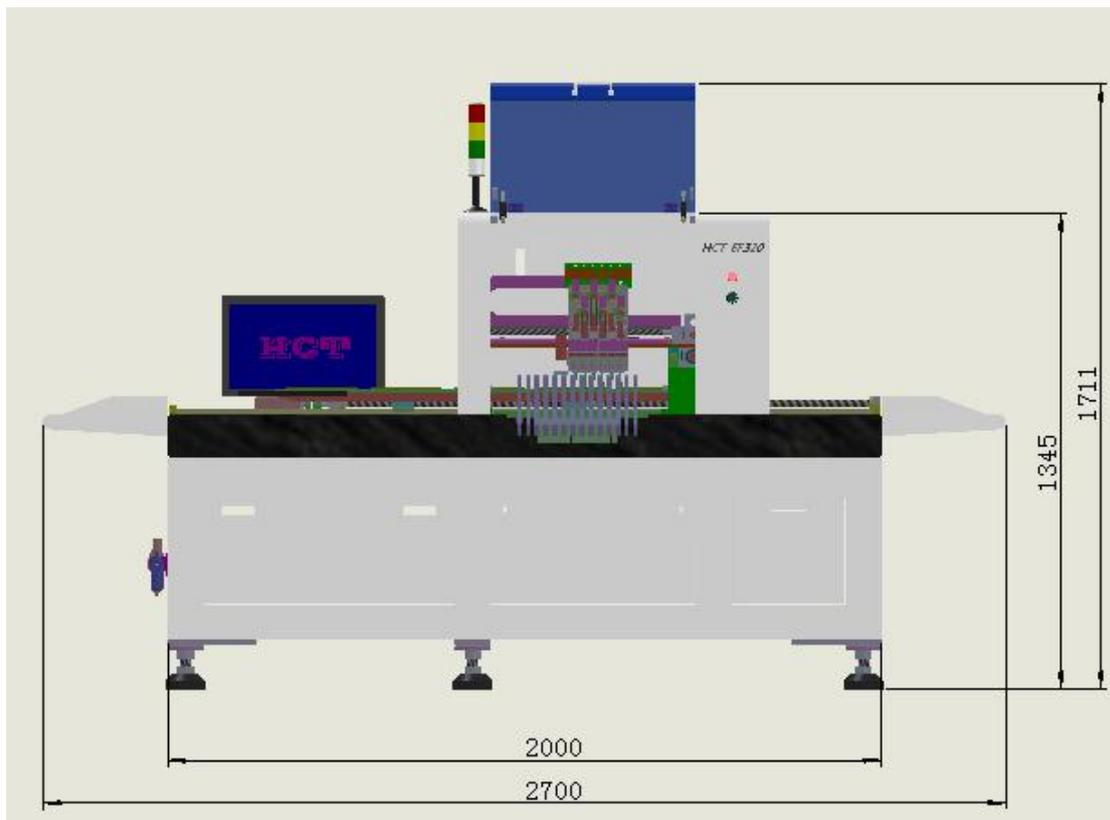

FIGURE 1: Front view
1) Dimensions as FIGURE 1、FIGURE 2